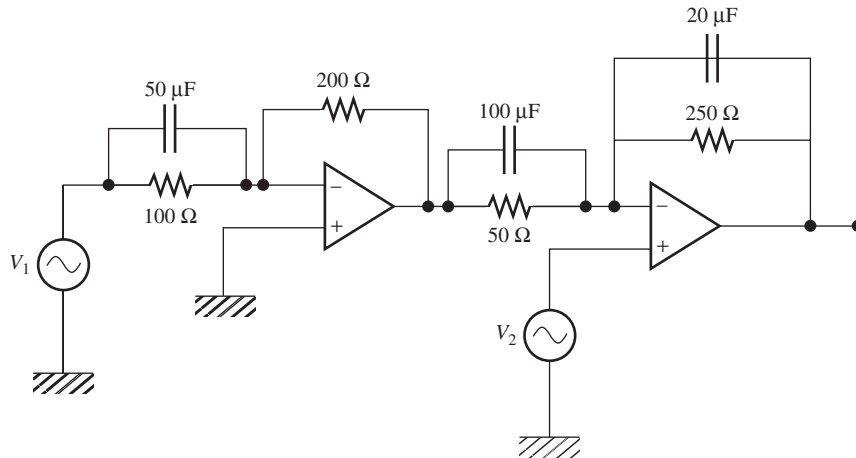

FIGURE P11.27 Circuit for Problem 11.27.
- 11.27** (H) Given that both voltage sources, V_1 and V_2 , are 120 V, 60 Hz, what is the output voltage of the circuit shown in Figure P11.27?